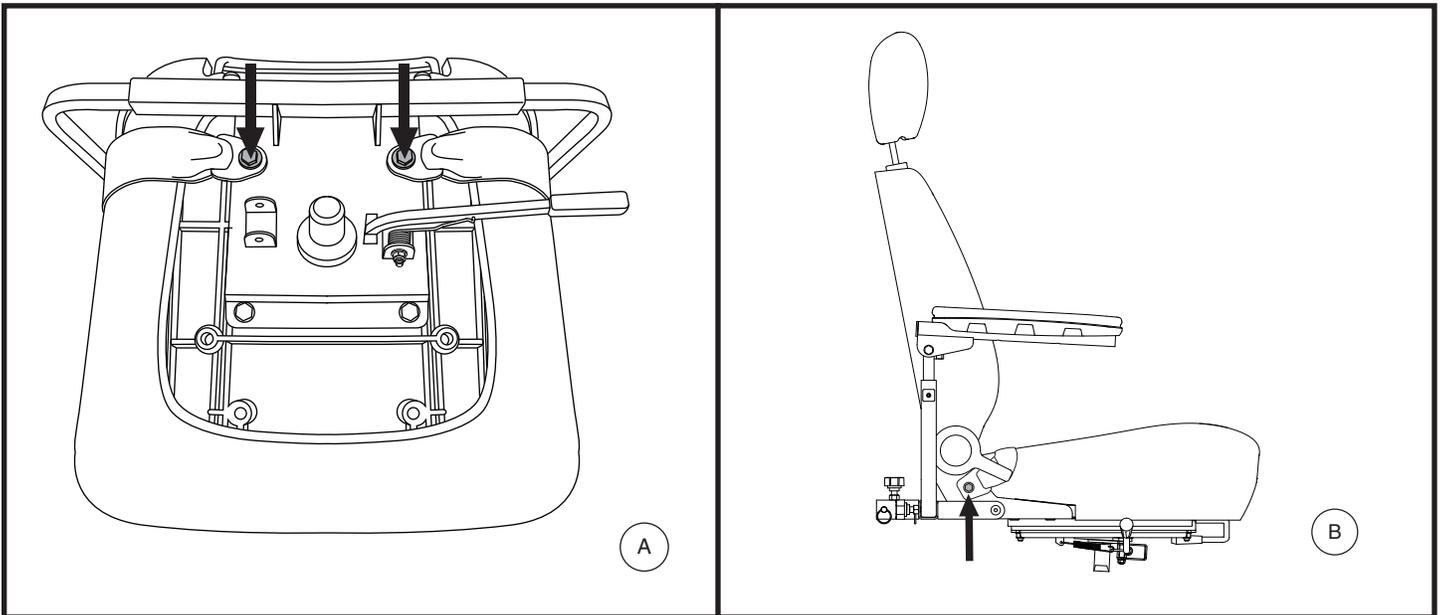

Figure 25. Positioning Belt Bolts
Your scooter seat may be equipped with a positioning belt that can be adjusted for operator comfort. **See figure 25.** The positioning belt is designed to help support the operator so that he or she does not slide down or forward in the seat. The positioning belt is not designed for use as a restraining device.
2. Place the seat upside down so that you can see the bottom of the seat base. **See figure 25.**